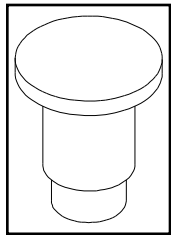

Figure 7:
Note: Before the bricks are installed, rivets (Figure 2) must be placed in the two (2) holes (shown in Figure 7) in the firebox that lag bolts came out of. This is done to make unit burn more efficiently.